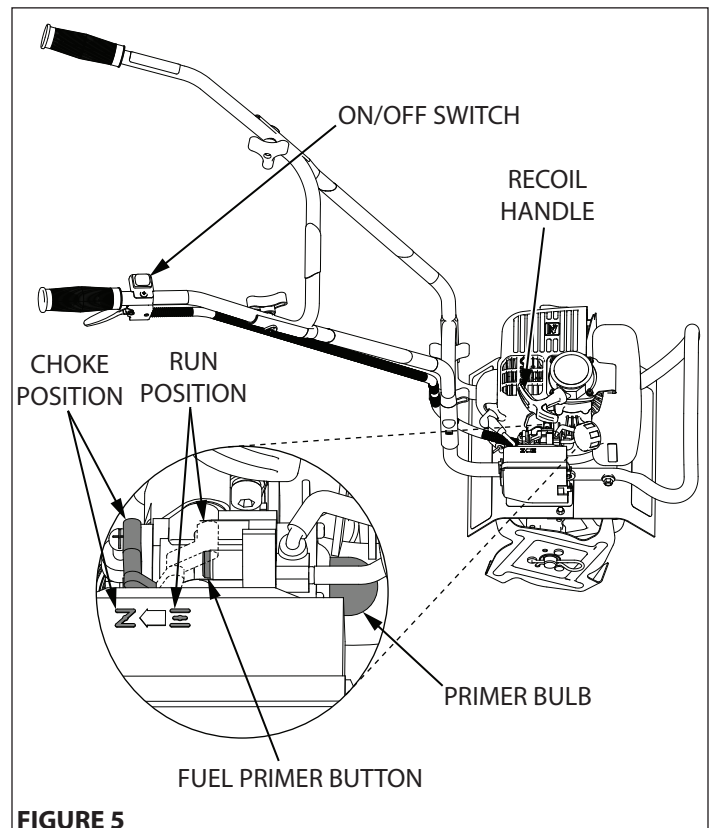

FIGURE 5
1. Move choke lever to **RUN** position. **SEE FIGURE 5**
3. Move choke lever to **CHOKE** position. **SEE FIGURE 5**
4. With the fuel primer button depressed, press the primer bulb **ONCE**. **SEE FIGURE 5**
8. Move choke lever to **RUN** position and squeeze throttle lever to desired speed. **SEE FIGURE 5**
1. Before removing the air filter cover, move the choke lever to the **CHOKE** position. **SEE FIGURE 5 ON PAGE 11**